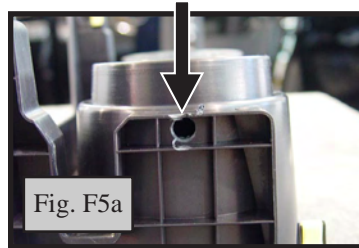

Fig. F5a
-  7. Using previously drilled pilot hole as a guide, Drill a 3/8" hole in cup holder insert to allow light to pass through. (Fig. F5ab)